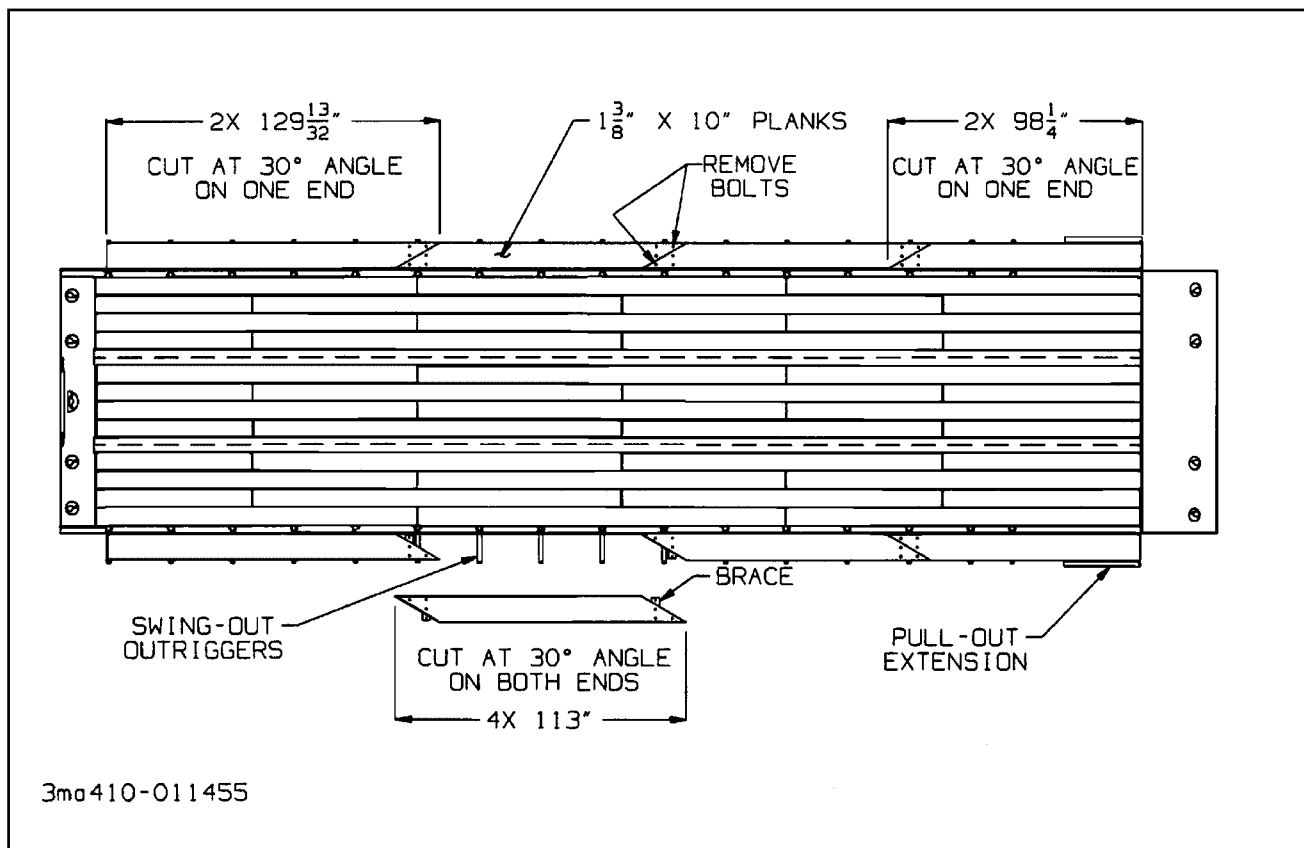

Figure 3-5 Outrigger Platform Extension
### 3-11 SWINGOUT OUTRIGGER PLATFORM EXTENSION SET-UP (OPTION)(See Figure 3-5)
- 3-11.6** Remove only two bolts for each joint as shown in Figure 3-5. Leave braces attached to boards for storage.